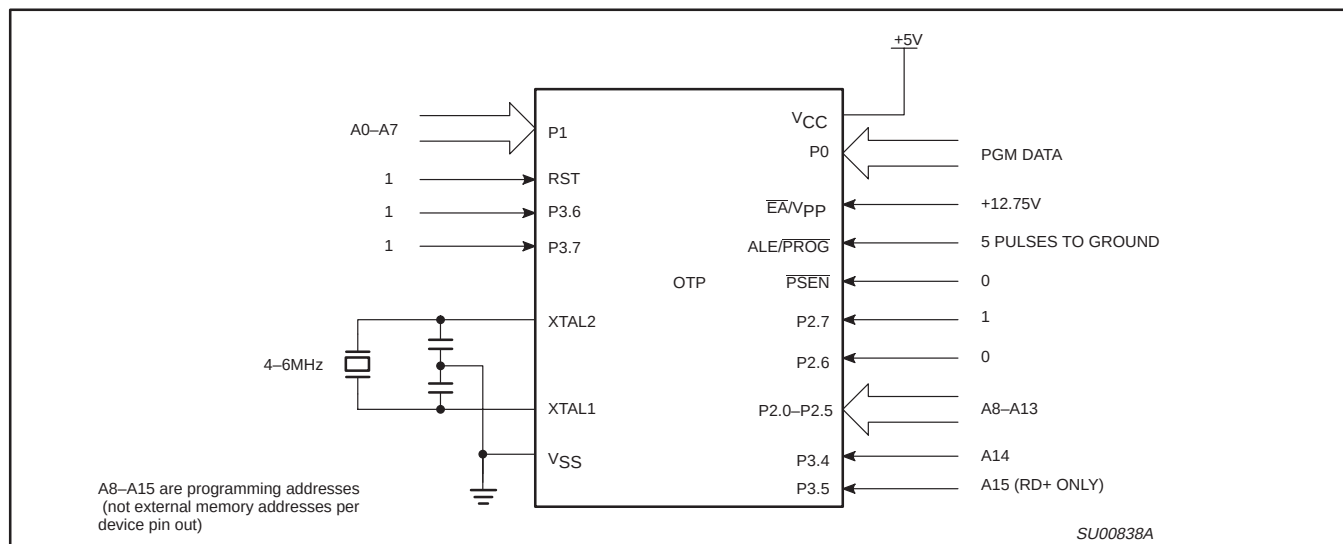
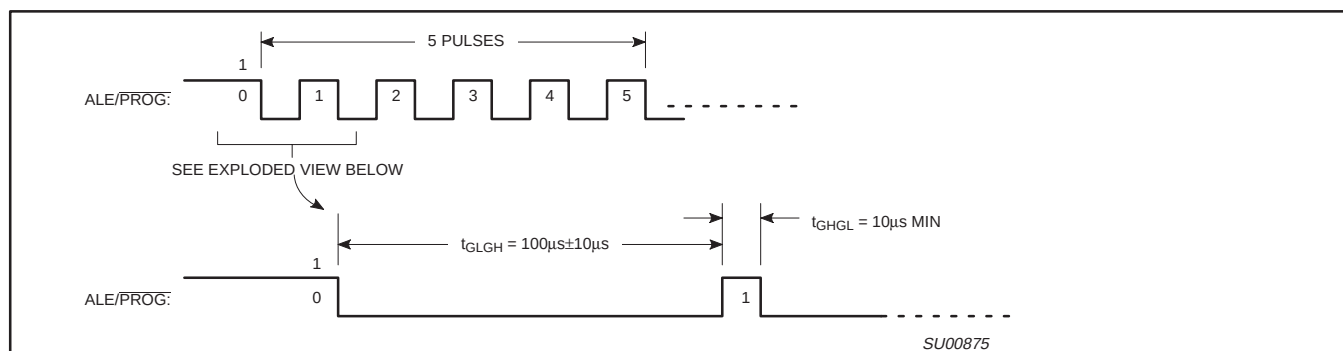
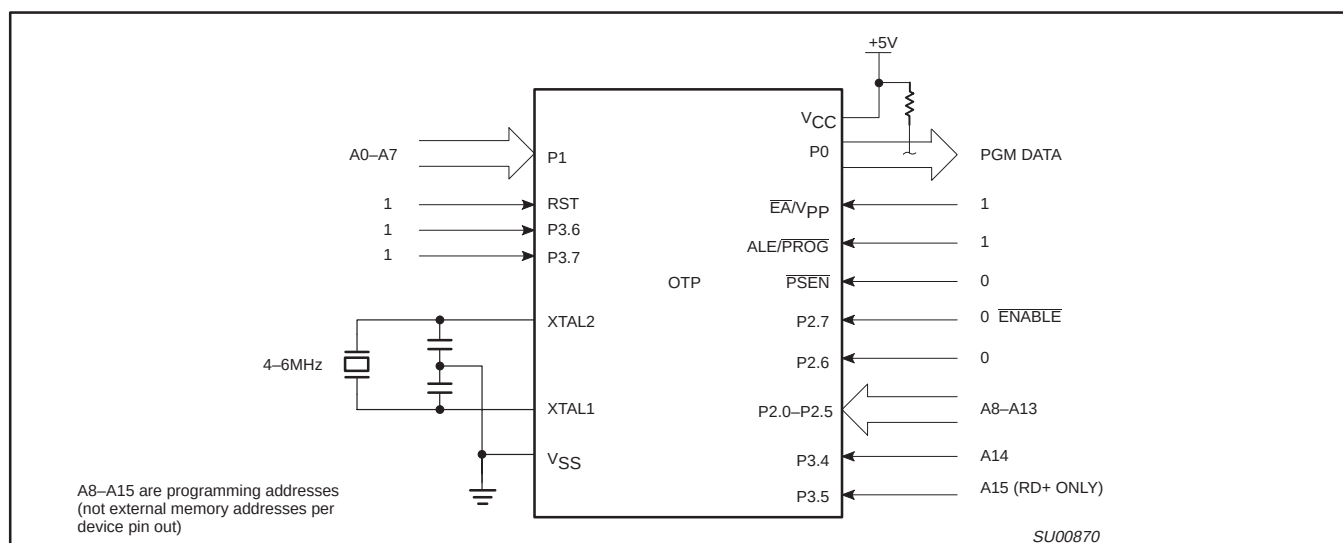

Figure 41. Programming Configuration
Figure 42. PROG Waveform
Figure 43. Program Verification
Table 9 shows the logic levels for reading the signature byte, and for programming the program memory, the encryption table, and the security bits. The circuit configuration and waveforms for quick-pulse programming are shown in Figures 41 and 42. Figure 43 shows the circuit configuration for normal program memory verification.
The setup for microcontroller quick-pulse programming is shown in Figure 41. Note that the device is running with a 4 to 6MHz oscillator. The reason the oscillator needs to be running is that the device is executing internal address and program data transfers.
The address of the EPROM location to be programmed is applied to ports 1 and 2, as shown in Figure 41. The code byte to be programmed into that location is applied to port 0. RST,  $\overline{PSEN}$  and pins of ports 2 and 3 specified in Table 9 are held at the 'Program Code Data' levels indicated in Table 9. The ALE/PROG is pulsed low 5 times as shown in Figure 42.
address of the program memory locations to be read is applied to ports 1 and 2 as shown in Figure 43. The other pins are held at the 'Verify Code Data' levels indicated in Table 9. The contents of the address location will be emitted on port 0. External pull-ups are required on port 0 for this operation.
- \* FOR PROGRAMMING CONFIGURATION SEE FIGURE 41.
- FOR VERIFICATION CONDITIONS SEE FIGURE 43.